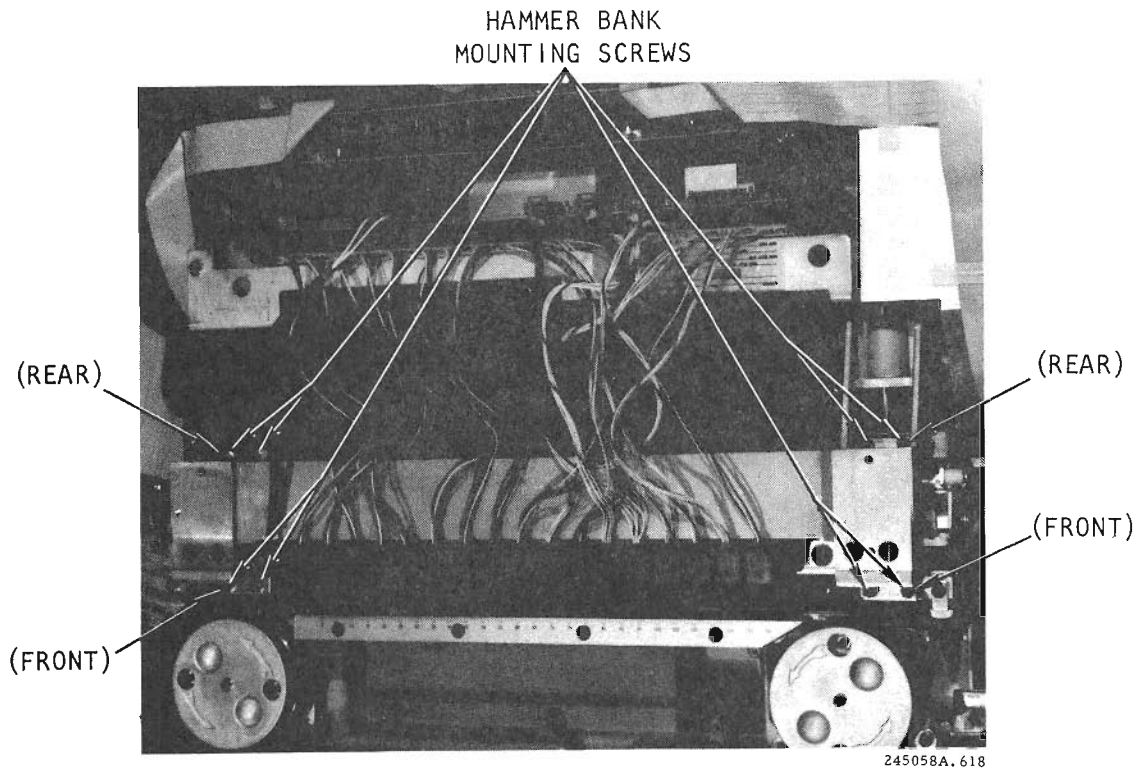

Figure 6-18. Paper Feed Assembly Removed
- f. Loosen the four front hammer bank mounting screws and remove the four rear mounting screws and two guide pin hold-down brackets (figures 6-18 and 6-19).